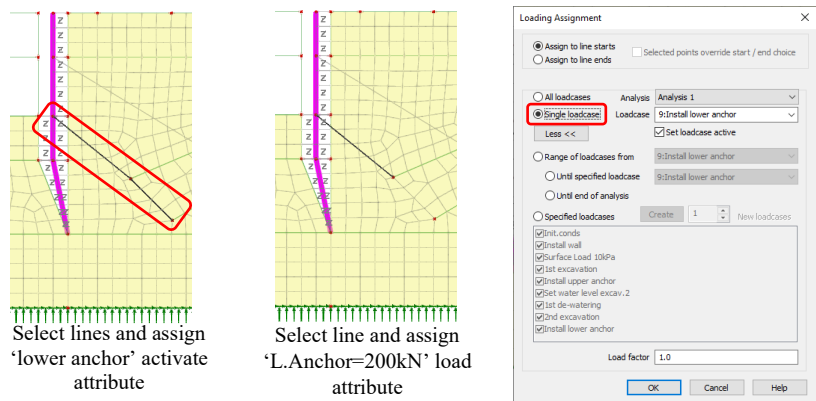

Figure 53: Installation of lower anchor
- Select the lines representing the lower anchor rod and grout and assign the Activate Elements attribute **lower anchor** (figure 53).